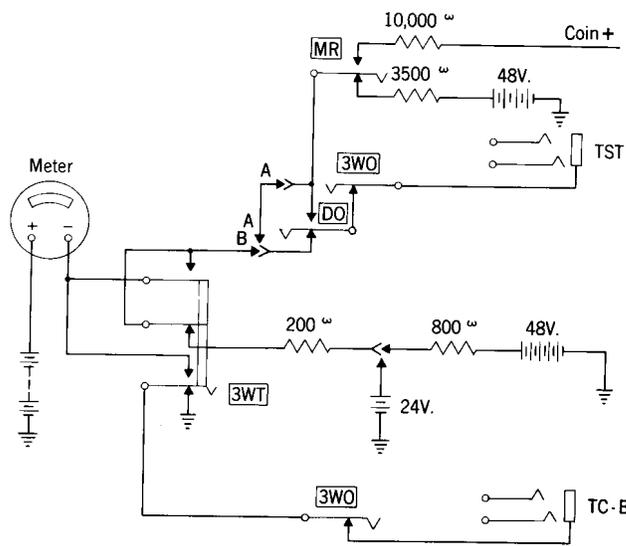

Fig. 7—Third Wire Test
**5.16** To test the sleeve of a subscriber line for a cross with another line or for a cross with battery or ground operate the 3WT key (see Fig. 7). This disconnects the central office battery or ground from the test circuit sleeve and connects the voltmeter circuit to the sleeve for making the desired test. The 20,000, 1000 and VM REV keys can be used in this test. Central office battery through the milliammeter cannot be connected to the sleeve.